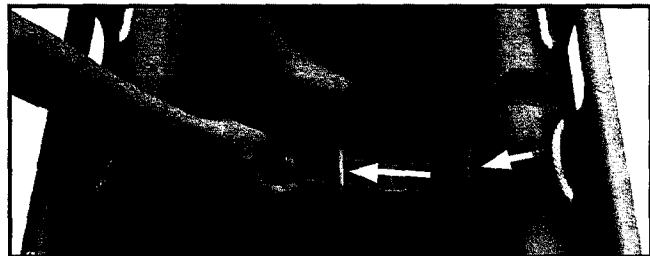

Figure 18 - Threading the Restraint Through the Buckle Slides
2. Thread the hook-and-loop portion of the restraint through the plastic buckle slides until the strap is the desired length (Figure 18).